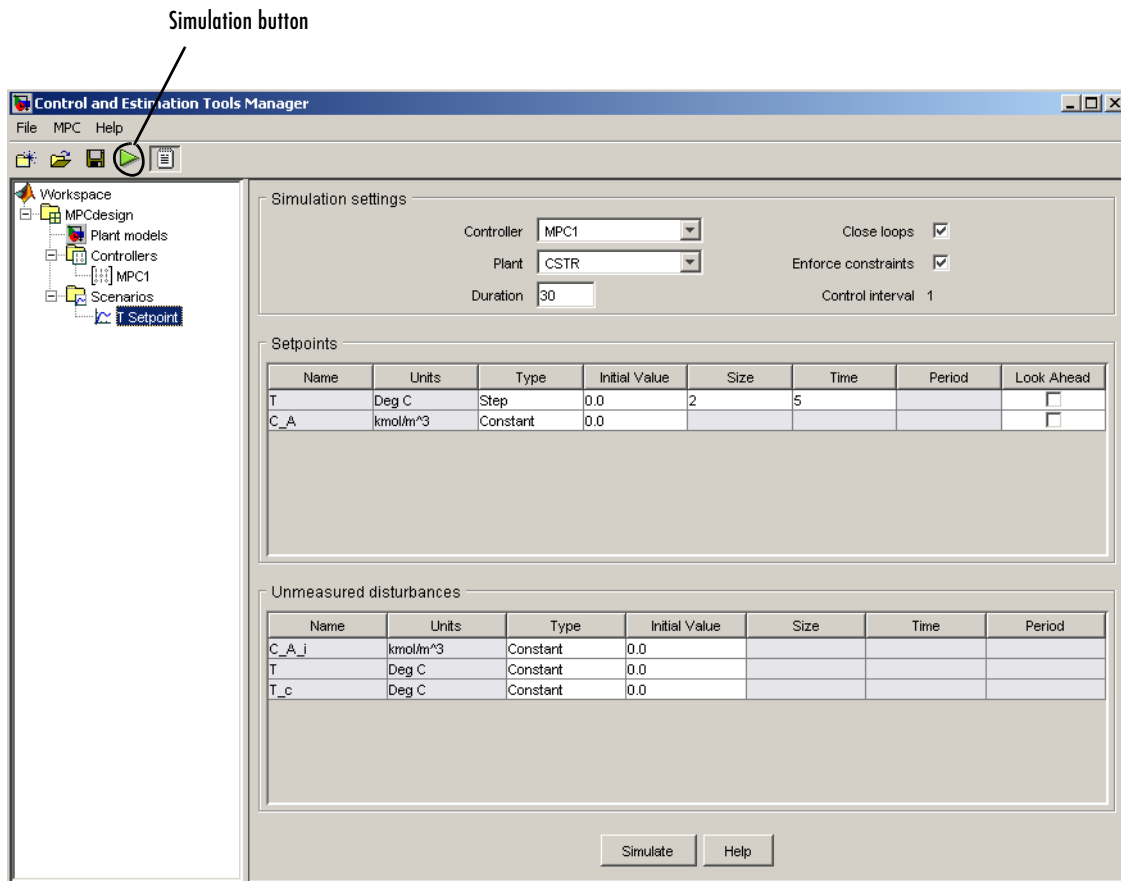

Figure 3-7: CSTR Temperature Setpoint Change Scenario
Figure 3-7 shows the result of renaming the default **Scenario1** node to **T Setpoint** and editing its default conditions. The required editing steps are as follows:
- Locate the tabular data defining the reactor temperature setpoint (first row of the upper table in Figure 3-7)
- Select the scenario you want to run, and click its **Simulate** button (see the bottom of Figure 3-7)
- Click the toolbar's Simulation button, which is the triangular icon shown on the top left of Figure 3-7.